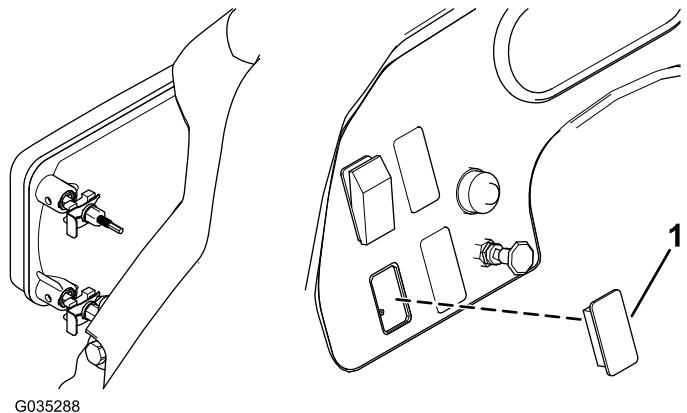

Figure 7
1. Remove the plastic plug from the left side of the dash (Figure 7).